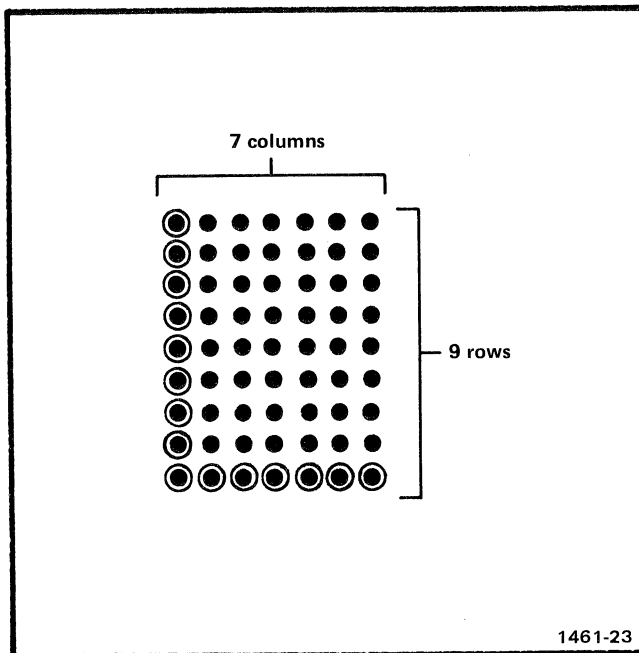

Fig. 6-4. Dots indicate matrix positions for character writing. Circles indicate which dots are written to form the letter L.
1. Sequentially place the writing beam to each of 16 vertical positions (rows) in each of 8 horizontal positions (columns) to form a 9Y by 7X matrix for character writing. See Fig. 6-4.
3. Turn the writing beam on at positions indicated by the ROM. The combination of written dots forms the character being written. See Figs. 6-4 and 6-5.